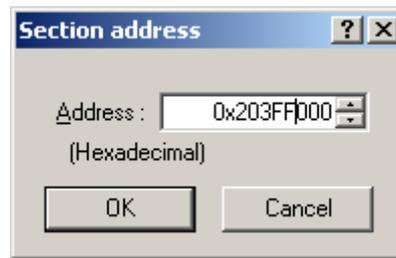

Figure 5.3.13 Section Setting (3/6)
(3) The [Section address] dialog box will open. Enter "0x203FF000" in the [Address] as shown in Figure 5.3.13, and click "OK".